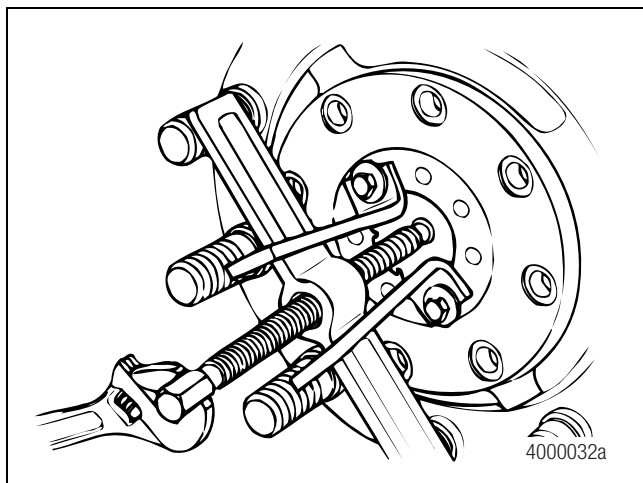

Figure 3.7
4. Remove the drive flange from the hub. If necessary, use a puller to remove the drive flange. Figure 3.7.